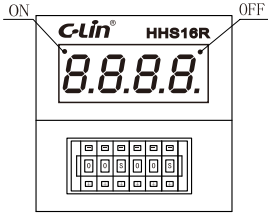

Figure 2 (HHS16R)
- Set the delay time and time period as required (Figure 2).
6. HHS16R briefly function: Finding in Figure 2. Set the time base and preset number of T1 and T2, and then turn on the power, the left two digital tubes show the delay data of T1, and OFF indicator is on at the same time; When the delay time reaches the set value of T1, the relay operates, and the right two digital tubes show the delay data of T2, and ON indicator is on; When the delay time reaches the set value of T2, the relay releases, and T1 starts to delay again, so as to realize cyclic delay control.